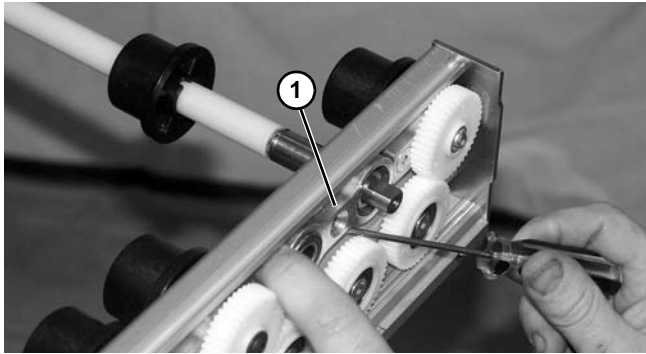

Figure 46
9. Use a small screwdriver to release bearing assembly (Figure 46, item 1) from the conveyor frame.